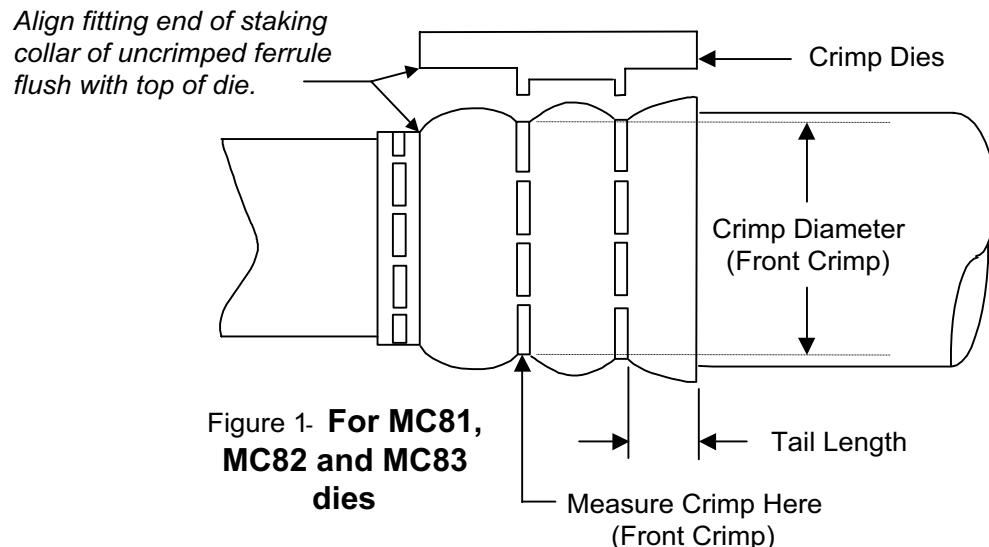

Figure 1
To achieve the proper tail length, line up the fitting end of the ferrule with the top of the die (see Figure 1) prior to crimping.
3. Determine the length of the replacement assembly. Measure the distance between the points where the tubing is to be cut. See Fig. 1.